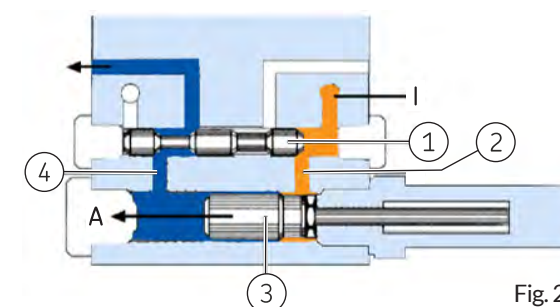

Fig. 2
Once the control piston (Fig. 2/1) has freed up the duct (Fig. 2/2), the lubricant moves in front of the right-hand face of the delivery piston (Fig. 2/3) and moves that piston to the left in the direction of the arrow (A). The lubricant in front of the delivery piston is now supplied through the duct (Fig. 2/4) to the lubrication point. After the delivery piston reaches its end position, the pressure in main line I rises until the changeover pressure set for the dual-line system is reached.